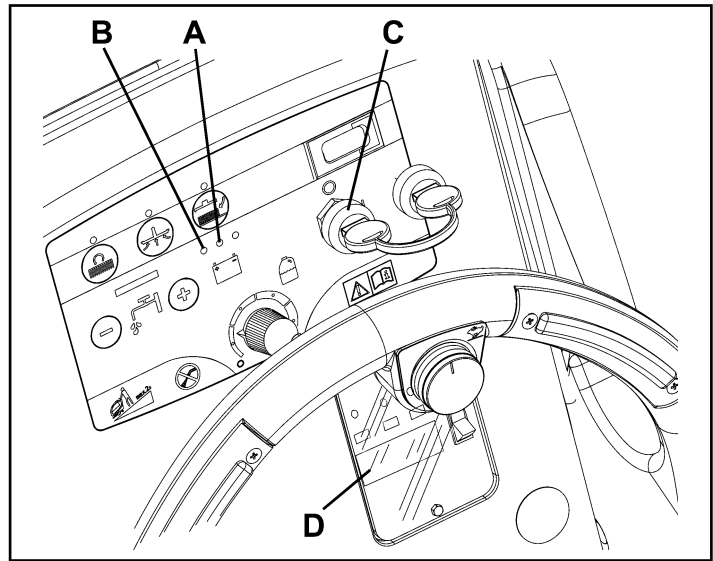

Figure 37
Charge the batteries when the yellow (A, Fig. 37) or red warning light (B) turns on, or when finishing cleaning.
3. Turn the ignition key (C, Fig. 37) to "0".